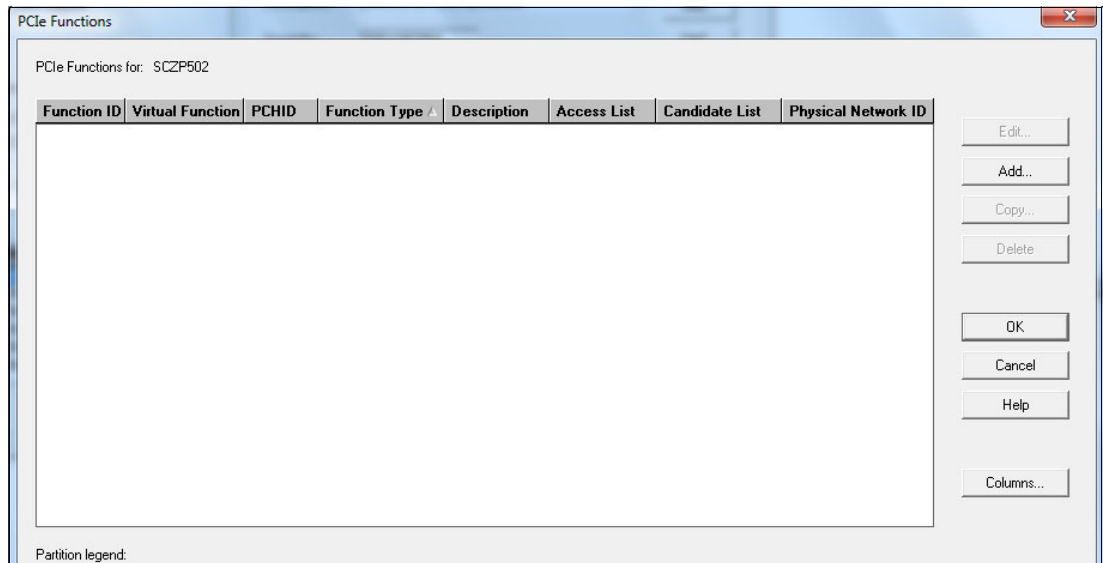

Figure 6-42 HCM - PCIe functions: summary list
4. The PCIe Functions summary window opens (Figure 6-42). Click **Add**.